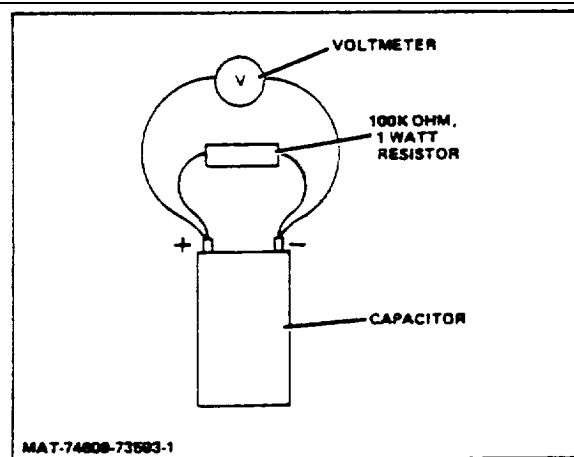

Figure 3-11. Discharging the Capacitor
- (3) If the capacitor charges too fast, it has lost its capacitance. If the capacitor charges too slowly, it is leaking and will not charge to full battery voltage with a 100 K ohm resistor in series. Replace any capacitor that does not test within the range specified.
- (4) Remove the resistor from the circuit and continue to charge the capacitor to full battery voltage. Disconnect the battery leads and immediately connect the voltmeter and 100 K ohm resistor as shown in Figure 3-11. After the resistor is connected, begin timing the discharging period with the watch. The capacitor should discharge at the rate indicated in the following chart.